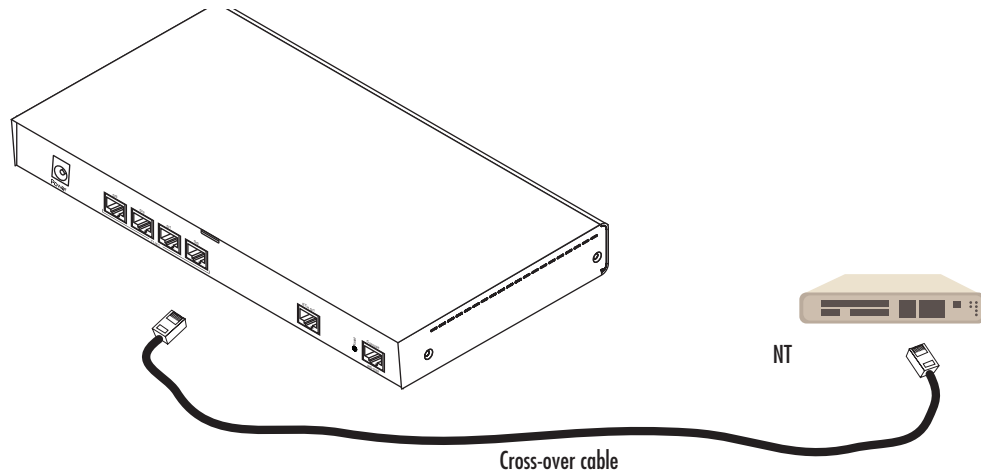

Figure 12. Connecting a T1 PRI port to an NT device
The T1 PRI is usually connected to a PBX or switch—local exchange (LE). Type and pin outs of these devices vary depending on the manufacturer. In most cases, a straight-through RJ-45 to RJ-45 can be used to connect the PRI with a PBX. A cross-over cable is required to connect to an NT device, as illustrated in figure 12 on page 51.